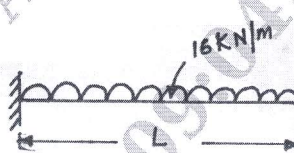

Fig. Q7 (b)
- b. Determine the maximum deflection for the Cantilever beam subjected uniformly distributed load for the entire span as shown in Fig. Q7 (b) by assuming the beam as a single element.